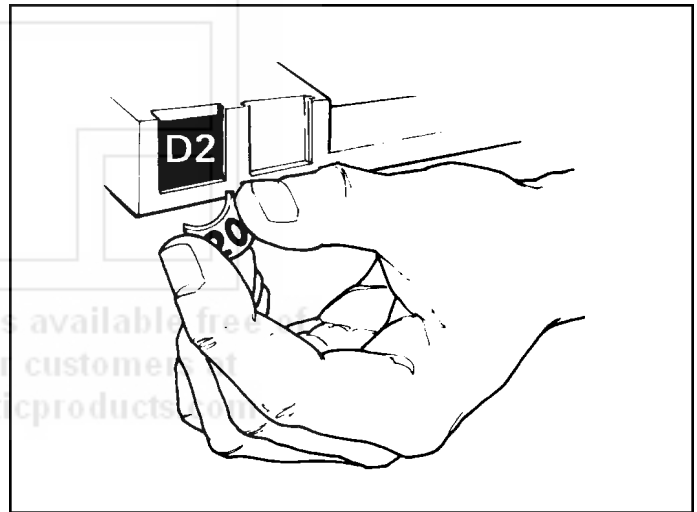

Figure 9. Installing price tabs.
12. **Install Proper Price Tabs** into price tab holder for each selection in the main product area. (Figure 9.)